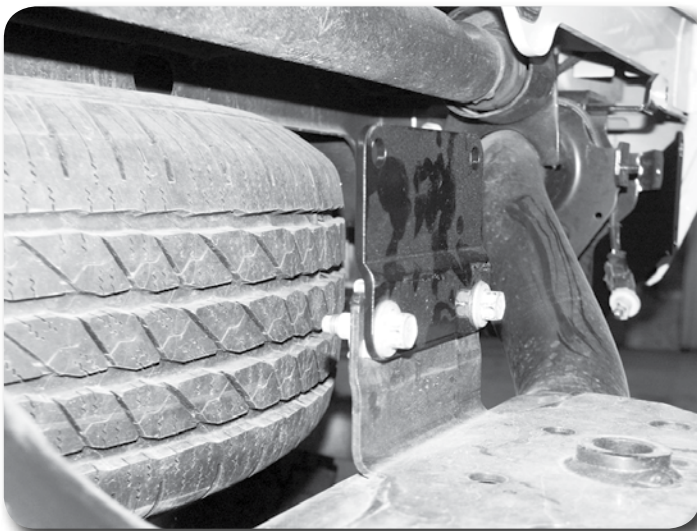

Figure 34
91. Install the provide middle rear bumper bracket to the original frame mount (behind the license plate) with the factory bolts. Install the bracket so that the short side is to the frame and the bracket offset toward the front of the vehicle **Figure 34**. Torque bolts to 35 ft-lbs.